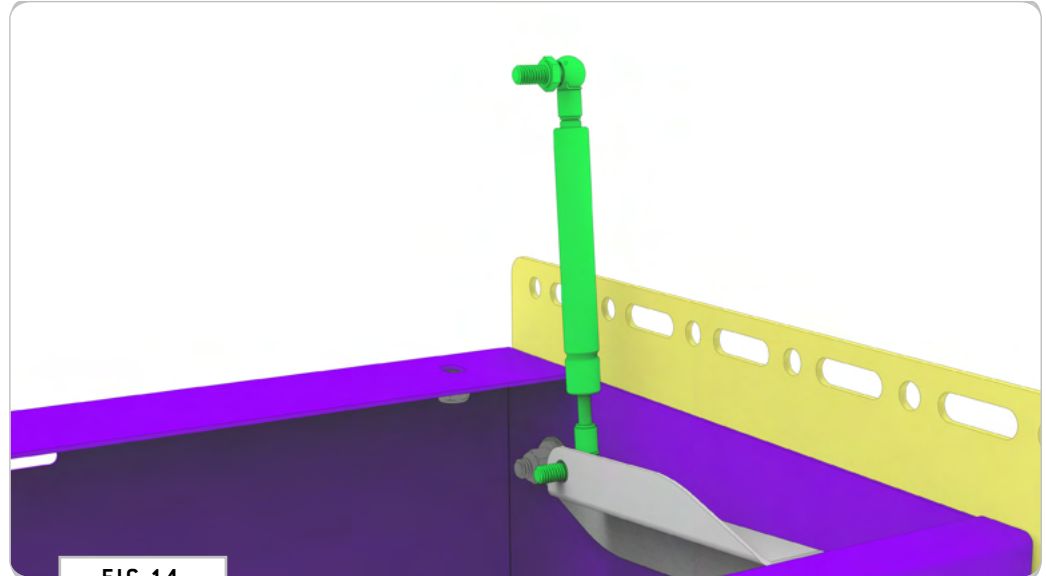
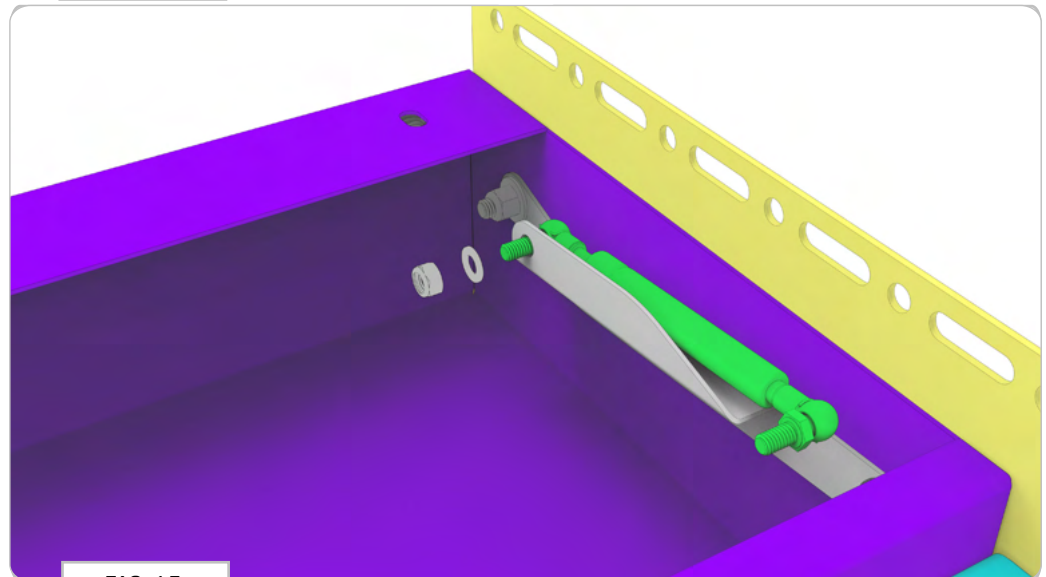

FIG 14
FIG 15
2.5 Attach Gas Struts to Brackets: Fasten **Gas Struts** to the **Left and Right Side Chest Strut Brackets** in the orientation shown in **FIG 14** using **(2) M8 Nylon Locknuts and Flat Washers (FIG 15)**.